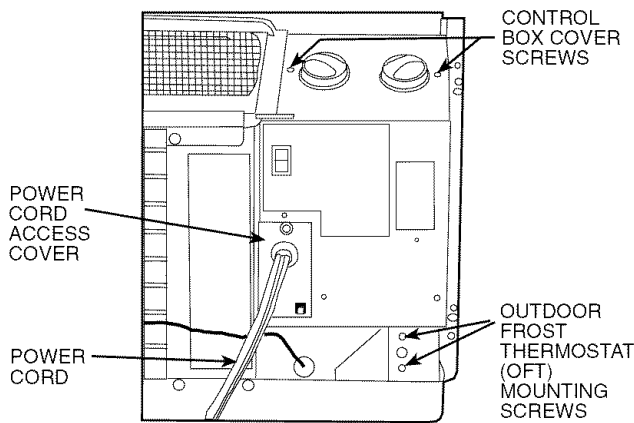

Fig. 2 — Control Box Component Location
1. Remove power cord access cover and save screw. See Fig. 2.
3. Open control box by removing the 2 control box cover screws shown in Fig. 2 and swing the cover down to open. Save the screws.